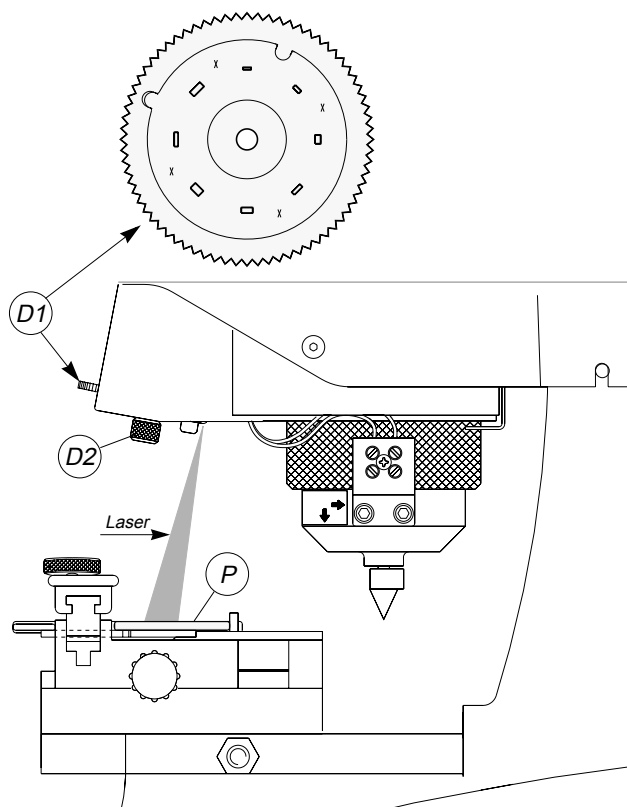

Fig. 16
The tracking disk (D1) includes eight marking zones of different sizes and shapes (fig. 16). Other versions are available on request.
- 1) loosen the knob (D2) (fig. 16).